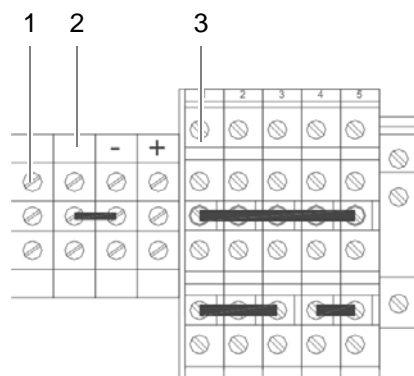

Figure 5.15 Terminals for defining the reference potential
- Connect the preinstalled yellow-green grounding cable (1) according to the earthing at the location
- in the case of positive terminal earthing with the terminal identified by "+" (3), or
- in the case of a negative terminal earthing with the terminal identified by "-" (2), see Figure 5.15.